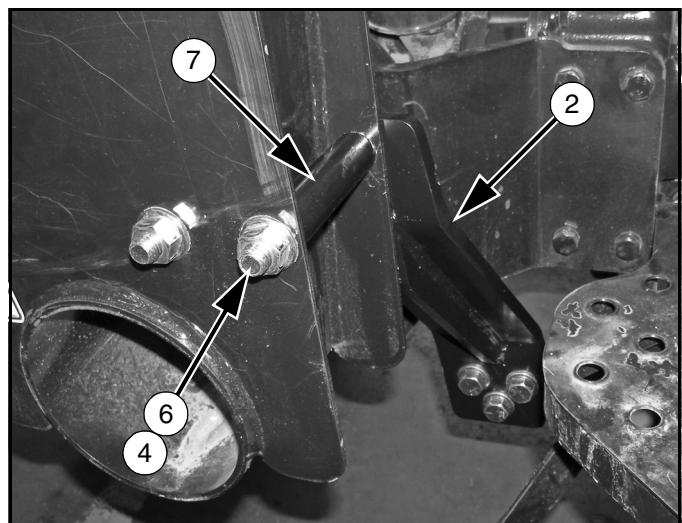

Figure 5. Left Backhoe Bracket Installed
4. Attach toolbox to toolbox bracket (3) using hardware previously removed.
5. Repeat steps to install left backhoe bracket (2) to left loader mount. See Figure 5.